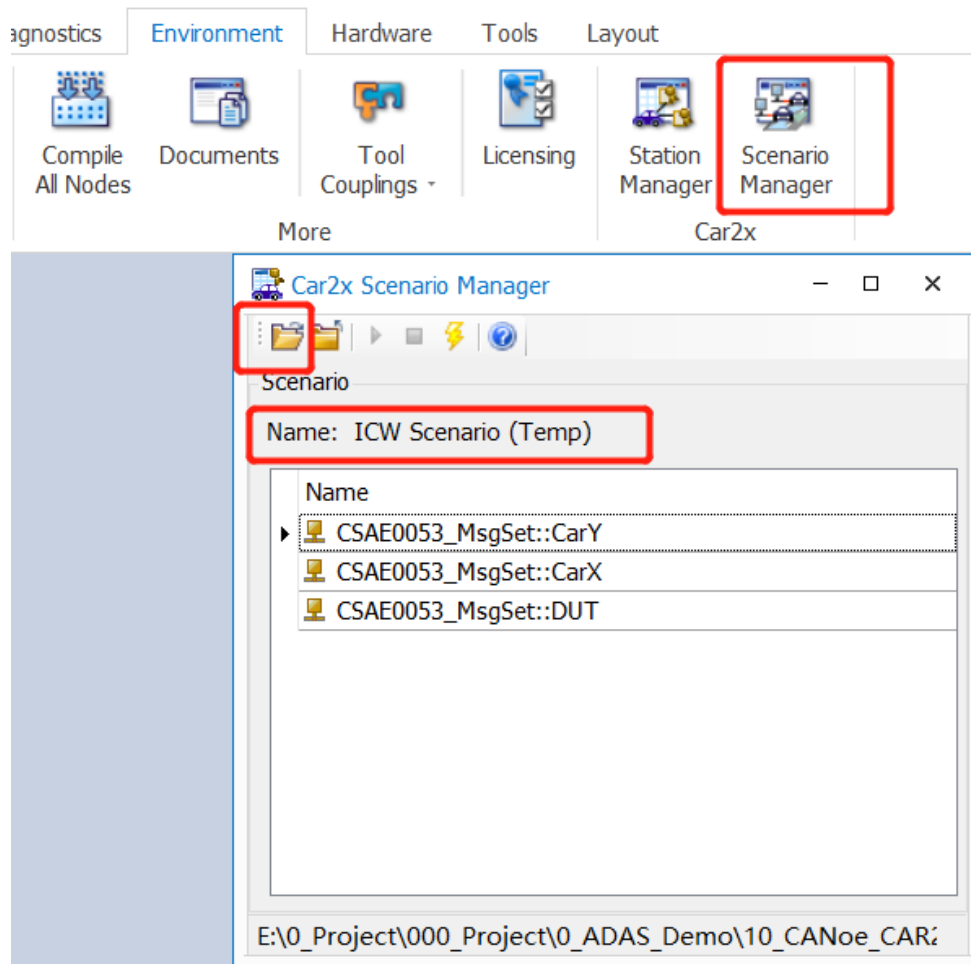

Figure 19: Import V2X of scenario file
- Use the CANoe software to open the Project attached to this guide and, and open the Scenario Manager tool to import the previously constructed C-V2X scenario file : ICW Scenario (Temp).scn (Figure 19)